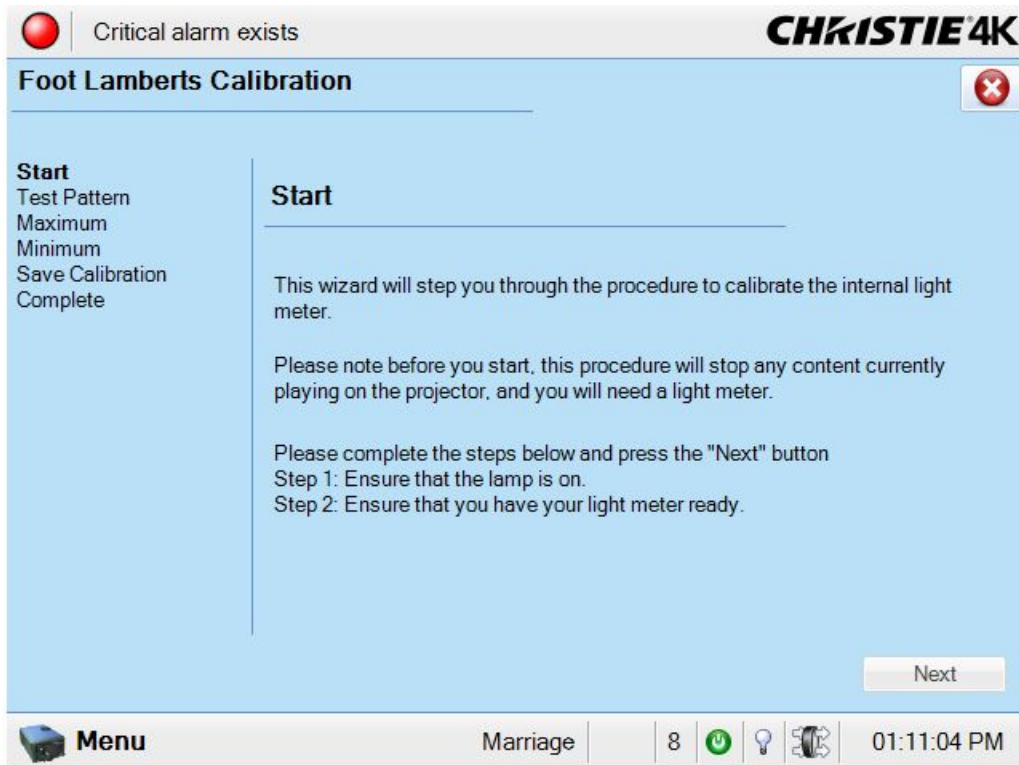

Figure 3-48 Administrator Setup: Foot Lamberts Calibration Start Window
The **Foot Lambert Calibration** window begins a series of panels that guides you through the process to calibrate the internal light sensor to Foot Lamberts. The left column of the **Foot Lamberts Calibration** window shows which state you're currently at in the calibration process. (**Figure 3-48**). Click the **Next/Prev** buttons to navigate the windows. **NOTE: DO NOT perform a Foot Lamberts Calibration when a show is playing as this will stop the show.**
1. Before starting the Foot Lamberts Calibration measurement process, ensure the lamp is ON and you have your light meter ready (**Figure 3-48**). Click the **Next** button to proceed to the Test Pattern window. If either of these two conditions are not met, the **Next** button will be disabled (greyed out) and will not let you proceed with the calibration.